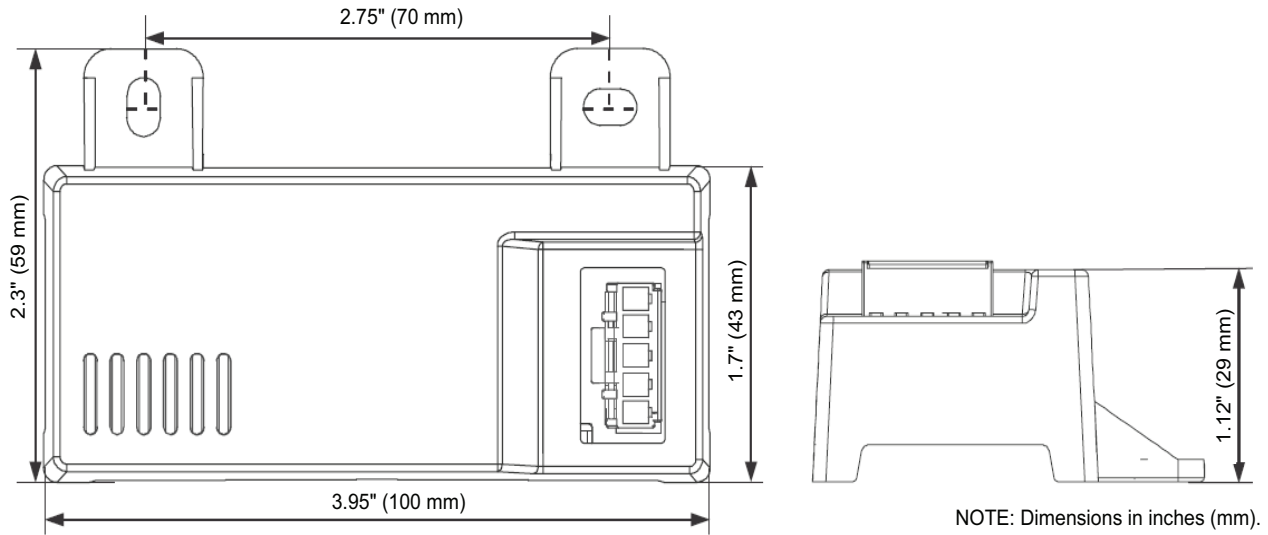
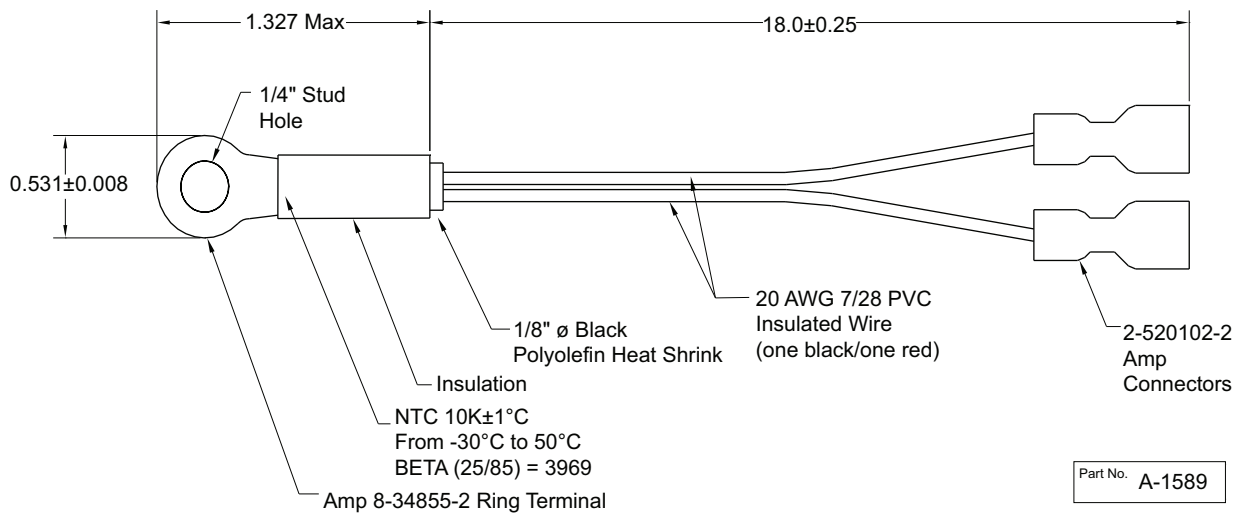
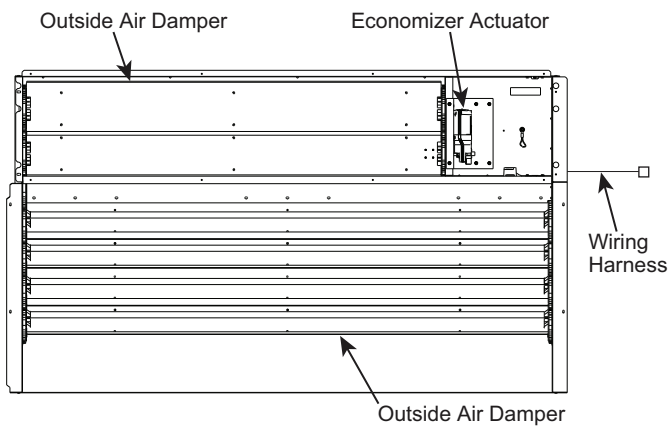

Fig. 87 — HH57LW001 Dimensional, Connection and Switching Information
Fig. 88 — HH79NZ039 Dry Bulb and Mixed Air Sensor Wiring
Fig. 89 — EconomizerONE System Component Locations
When using the HH57LW001 enthalpy sensor (see Fig. 87) for outside air changeover, the existing HH79NZ039 dry bulb sensor (see Fig. 88) must be removed. The enthalpy sensor will be mounted in the same location as the dry bulb sensor (see Fig. 89). When the enthalpy sensor's OA (Outside Air) temperature, enthalpy, and dew point are below their respective set points, outside air can be used for free cooling. When any of these are above their set point, free cooling will not be available. Enthalpy set points are configurable and create an enthalpy boundary according to the user's input. For additional details, see Fig. 90-91 and Table 32.
The optional enthalpy control sensor (P/N: HH57LW001) communicates with the POL224 economizer controller using the 5-wire harness, 48TC005213. The HH57LW001 sensor can be used as a single outside air enthalpy, a differential return enthalpy, or a differential return temperature sensor. Refer to the base unit control wiring diagrams found earlier in this book to wire the HH57LW001 enthalpy sensor for each option. See Fig. 87 and Table 34 on page 70 to locate the wiring terminals for each enthalpy control sensor.
Economizers are shipped standard with an HH79NZ039 outside air dry bulb sensor (refer to Fig. 88). System default setting (high temp limit) is 63°F (17°C) and has a range of 48°F to 80°F (9°C to 27°C). Sensor is factory installed on economizer.
If installing the optional HH57LW001 enthalpy sensor, the HH79NZ039 dry bulb outside air sensor must first be removed. Wire sensor to harness 48TC005213 and the (5) wires from the harness to the EconomizerONE harness in the return air chamber. Harness 48TC005213 has a 5-pin plug that connects directly to the HH57LW001 enthalpy sensor. Refer to the base unit control wiring diagrams earlier in this book for wiring connections. Refer to Fig. 87 and see Table 34.